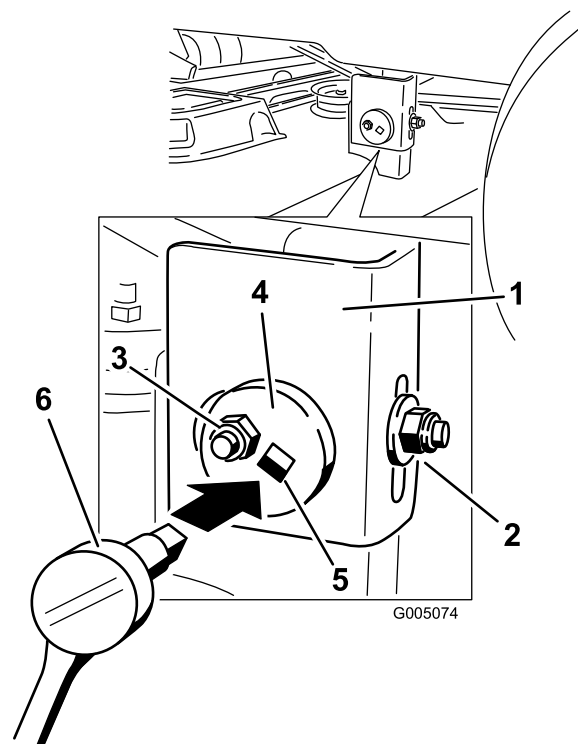

Figure 44
- Move to the left side of the machine. Loosen, but do not remove, the rear locking nut on the hanger bracket (Figure 44).
- Loosen the side locking nut on the hanger bracket just enough to allow the eccentric plate to be adjusted (Figure 44). Use a 3/8 inch drive extension on a socket wrench to manipulate the eccentric plate. Use the wrench to reposition the height of the mower deck and adjust to the desired height.
- Stop the deck at the adjusted position and tighten the side locking nut on the hanger bracket to hold the new position (Figure 44). Tighten the rear locking nut on the hanger bracket.